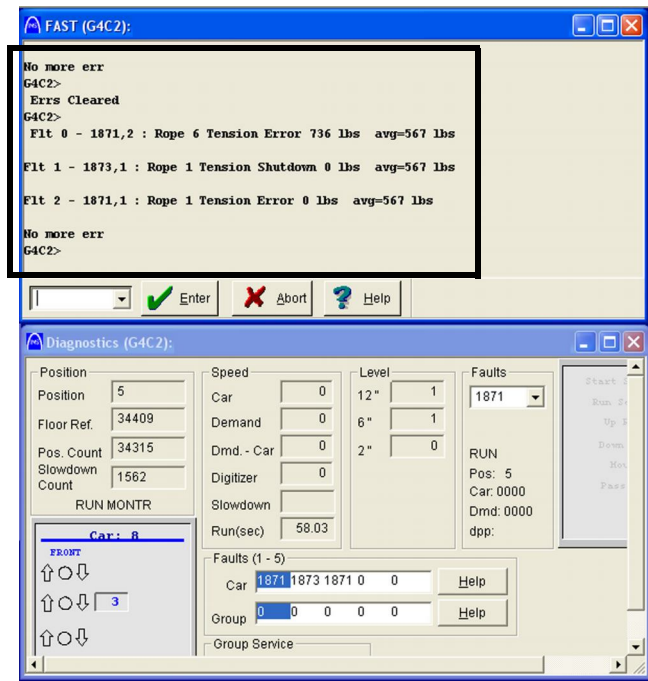

Figure 6 - Related Fault
9. Enter the FLT command in the Remote Fast of IMS to display the related fault. See Figure 6.